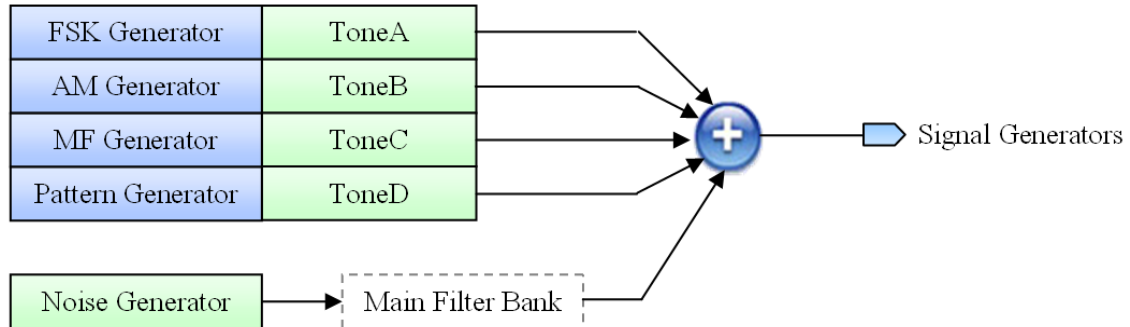
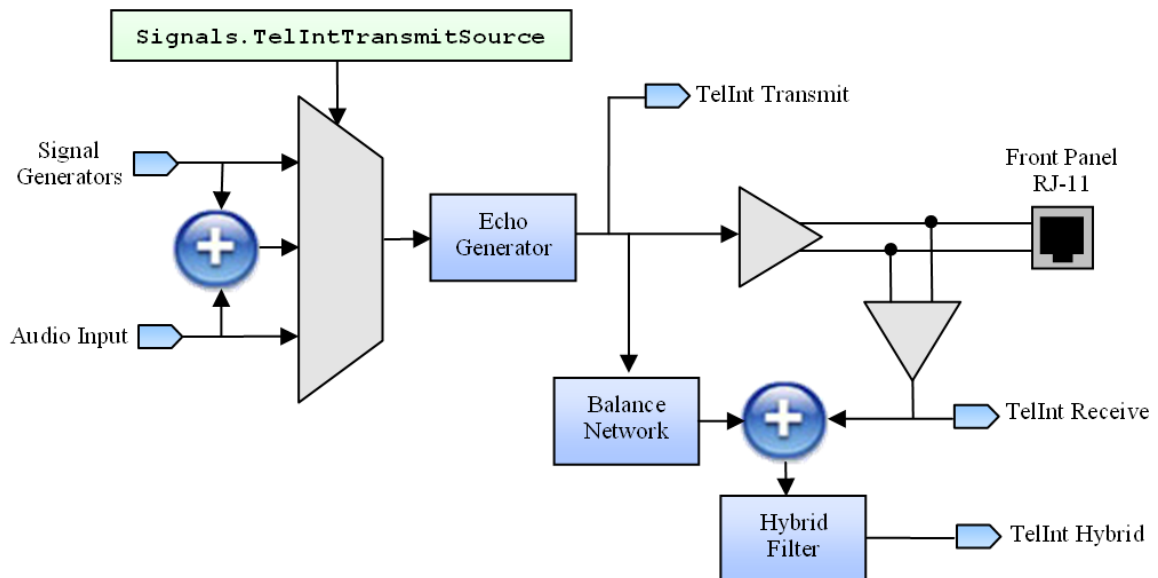

Figure 30 AI-5620 Signal Generator Routing Diagram
Figure 31 Simplified AI-5620 Telephone Interface Routing Diagram
The signal routing capabilities of the AI-5620 can be accessed using a SignalManager object which is accessed through the Signals property of the AI5620\_TE\_Simulator class. The following sections describe the signal routing capabilities within the instrument and highlight the corresponding programming interface; starting with the signal generators shown in Figure 30 below.
The outputs of each of the fundamental signal generators are summed together to produce the internal signal labeled “Signal Generators” as illustrated in Figure 30. This signal can then be routed to many signal blocks through the instrument including the telephone interface. A heavily simplified diagram of this telephone interface signal routing is shown in Figure 31 below.
- Signal generator outputs (Figure 30)
- **Filtering Noise Generator** – this setting configures the main filter bank to filter the noise generator output before it is summed with the rest of the signal generator outputs (as shown in Figure 30). This enables applications to “shape” or band-limit the noise generator output.
- Both the meter source and the detector source are configured to receive the “TelInt Receive” signal (see Figure 31)